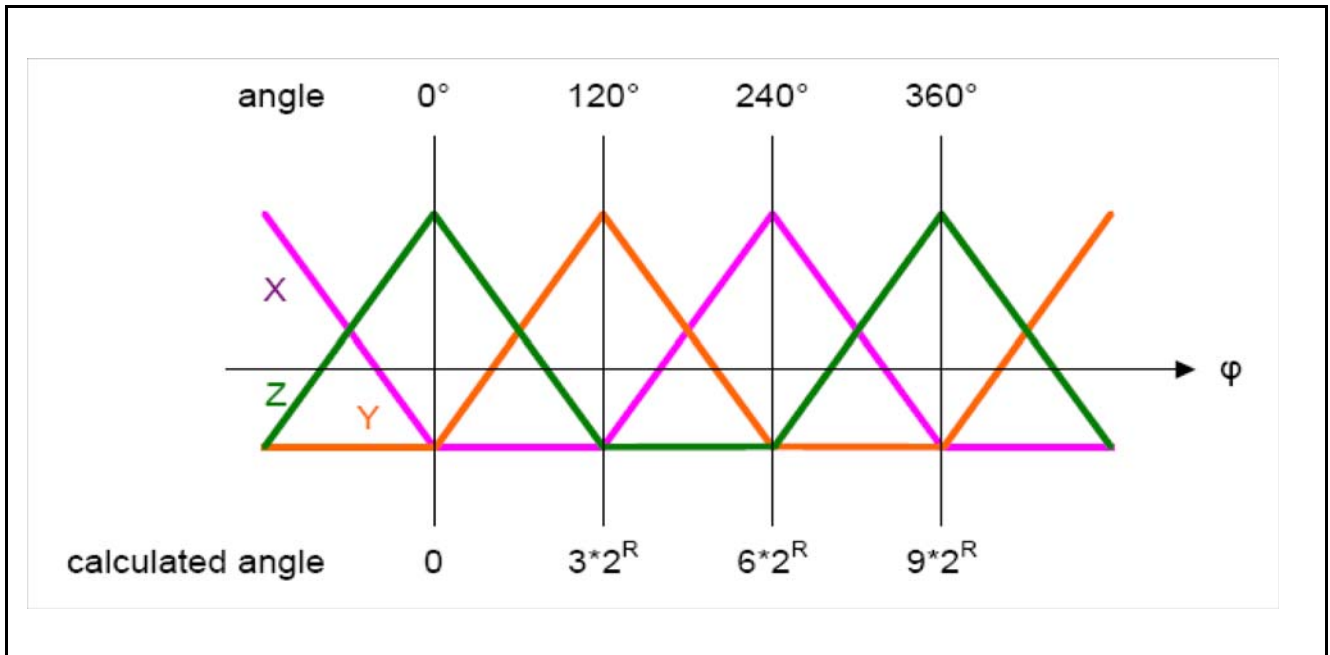

Figure 17 Calculated angle vs real angle across all sections
**Figure 17** gives an illustration of the calculated angle across all 3 sections.